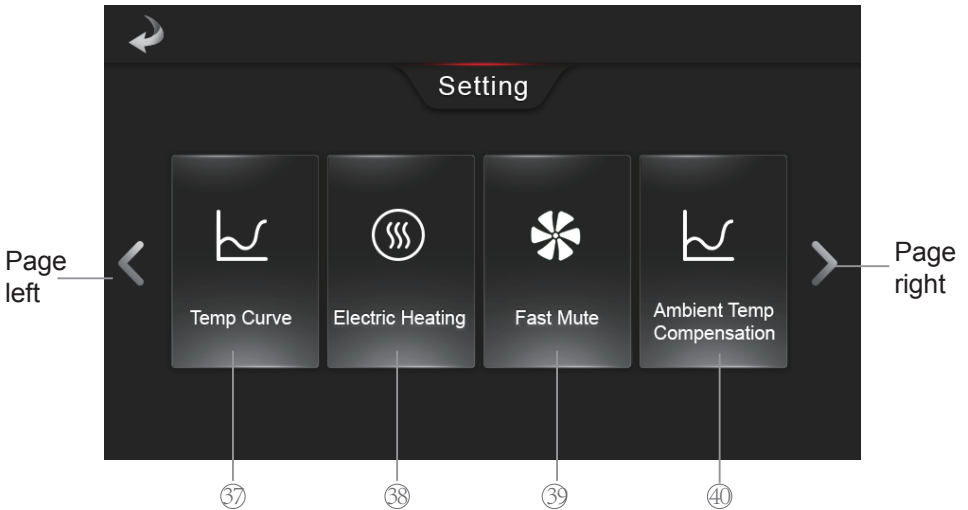
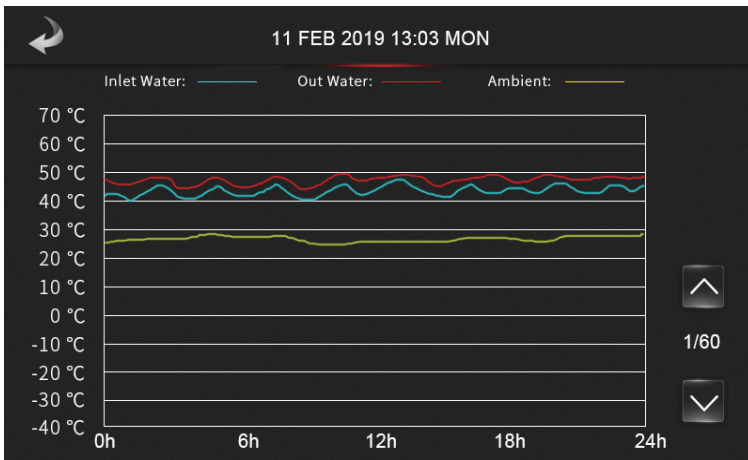
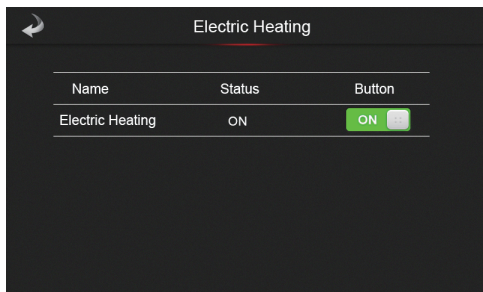

Fig. 10 Setting interface
Fig.17 Temperature Curve interface
Fig.18-1 Electric Heating interface
In the Setting interface (Fig.10), press Temp Curve button ③⑦ to inquire the inlet/outlet/ambient temperature curve interface (Fig.17).
In the Setting interface (Fig.10), while the button  displays “OFF Electric Heating”, firstly make sure the unit is operated in heating mode, then press Electric Heating button  to jump to Electric Heating interface (Fig.18-1), click the button to be ON, the electric auxiliary heating mode is activated; while the unit is in running in electric auxiliary heating mode, turn off the electric heating function by the same operation steps.
In the Setting interface (Fig.10), while the button ③⑨ displays “OFF Fast Mute” and “❌”, press this button ③⑨ to enable fast mute function and it displays “ON Fast Mute” and “🔇”; while the fast mute mode is enable, press this button again to turn off it. Fast Mute is only available when this function is enable, or the fast mute function cannot be set.
In the Setting interface (Fig.10), press Ambient Temp Compensation button ④① to jump to Weather Compensation interface. Click the Slope button ④⑥ and the Offset button ④⑦ to set the parameter.